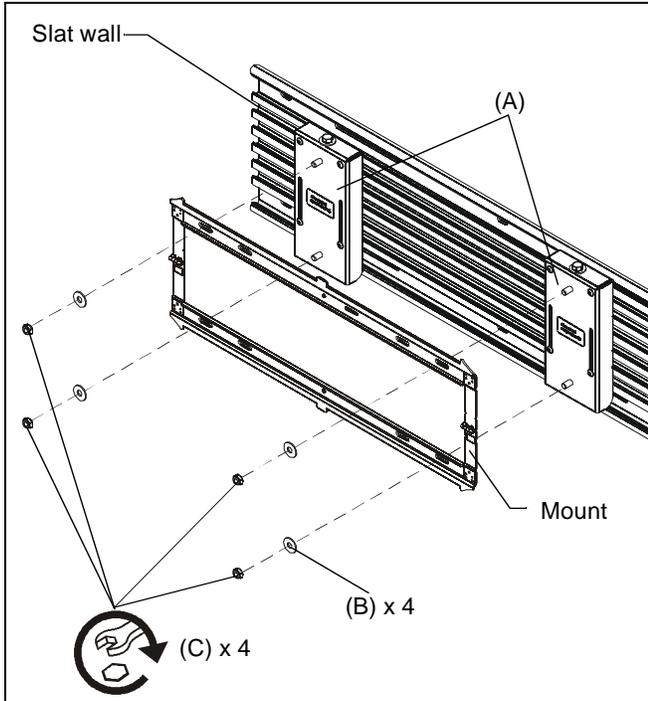

Figure 4
7. Install mount to PAC-392 using four 5/16" flat washers (B) and four 5/16" lock nuts (C). (See Figure 4)